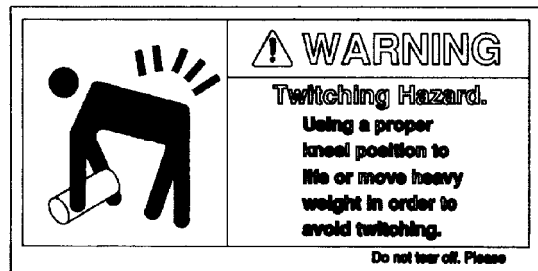

Fig 3.7.3
3. Using a proper kneel position to lift or move heavy weight in order to avoid twitching. (Fig 3.7.3). Located in position “C”.